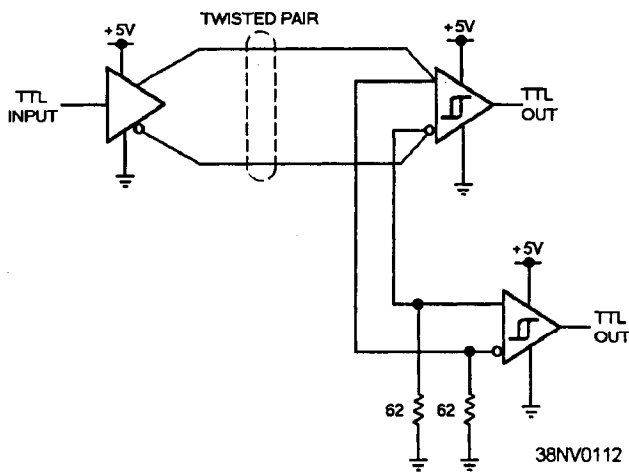
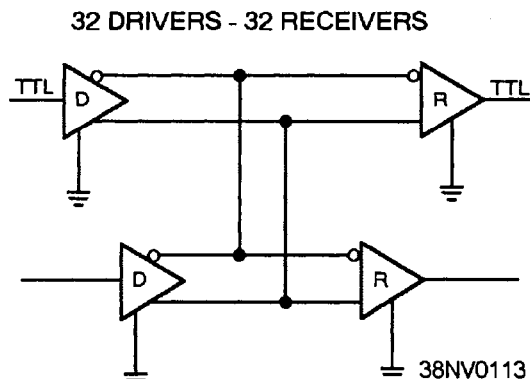

Figure 4-37.—Example of differential point-to-point line drivers and receivers connected in parallel.
Figure 4-38.—Example of differential multiple source and destination line drivers and receivers.
• Differential drivers and receivers —Differential drivers and receivers are used over long distances for high-speed communications. They are usually twisted pairs of wires or coaxial cables. Differential types can be point-to-point (fig. 4-37) or multiple source and destination (fig. 4-38).